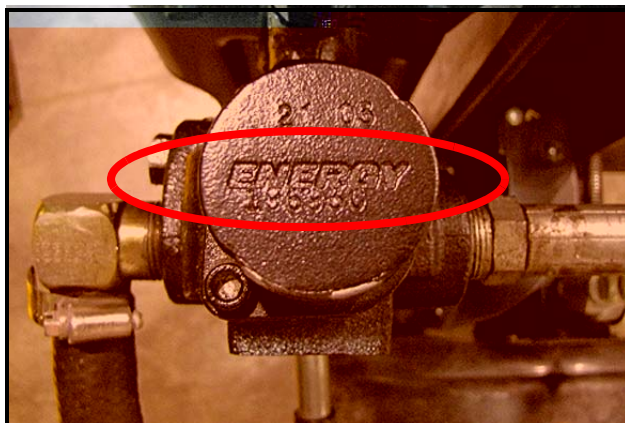

FIGURE 3
6. If the valve has the name “ENERGY” on the end cap, as shown in Figure 3, the valve must be tested. Proceed to the “**TEST PROCEDURE**” section on Page 3.